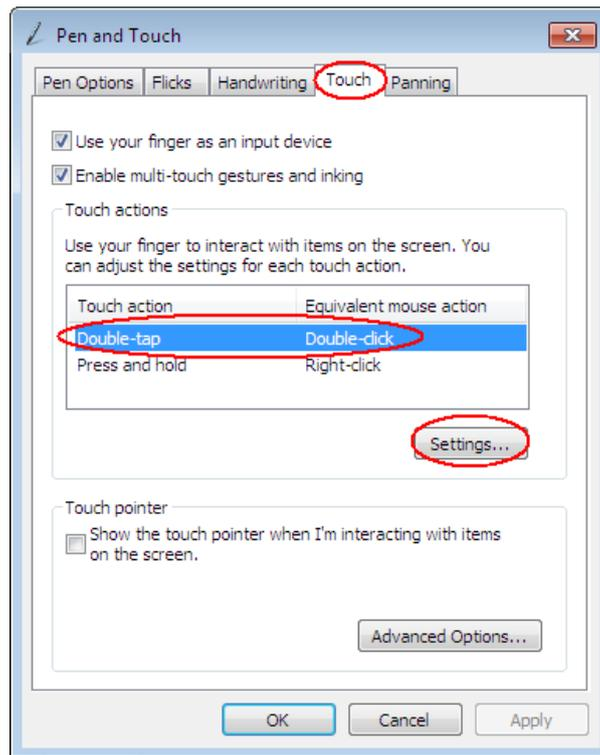
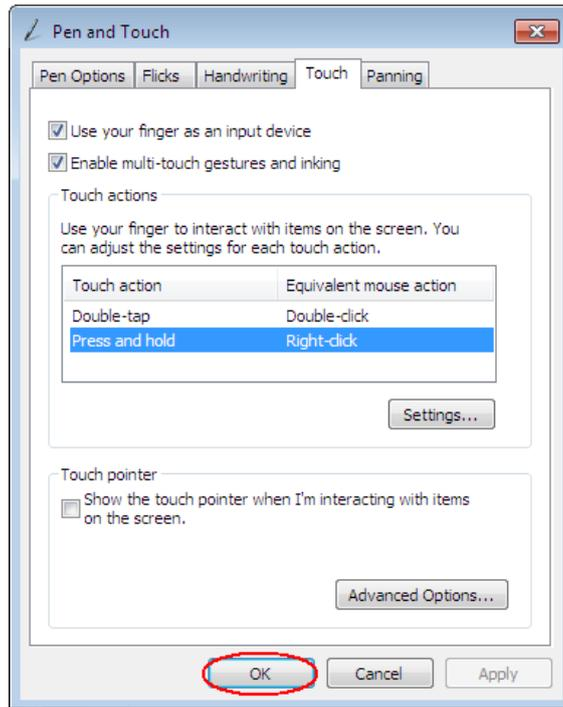

Figure 3-30
Figure 3-32
3) Double-click setting steps: "Touch" - "Double-tap" - "Settings" (Figure 3-30), to set the speed and spatial tolerance. Click "OK" - "OK" (Figure 3-32).